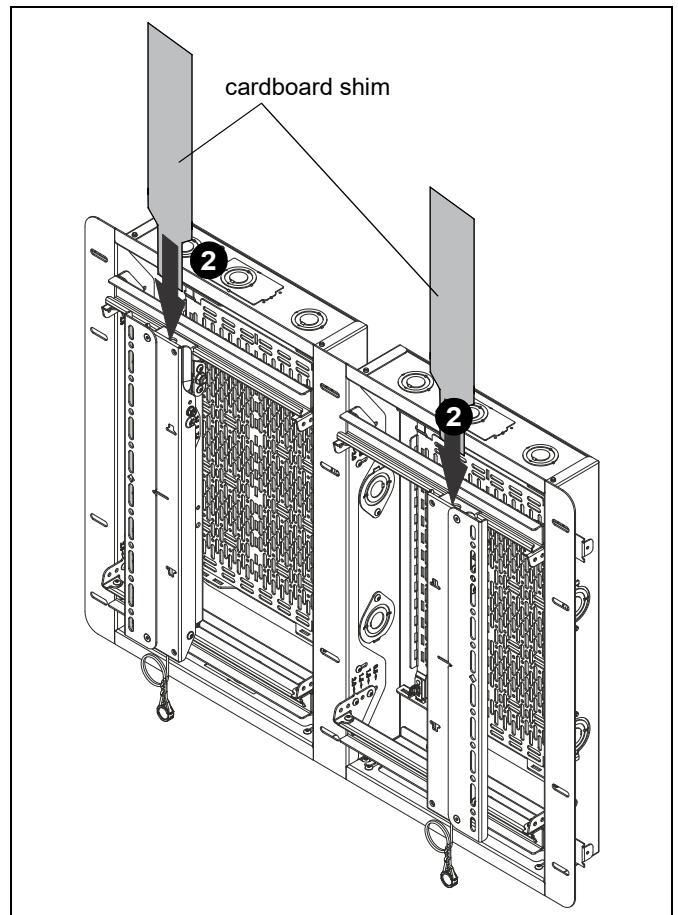

Figure 31
2. Place created shim tool down top of each upright and gently push and pull on display while shimming until it releases. (See Figure 31) and (See Figure)